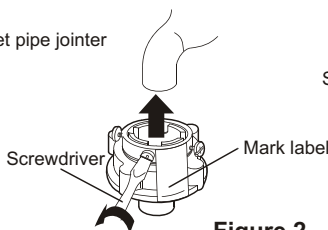
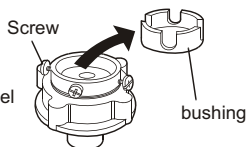

Figure 2
Figure 3
3. Loosen the screw till the water tap can be accessed. Put the jointer of the water inlet hose on the tap. See to Figure 2. (If the tap diameter is too large and the jointer can not be set on the water tap, please loosen the four screws and take out the bushing in the jointer. See to the figure3.)